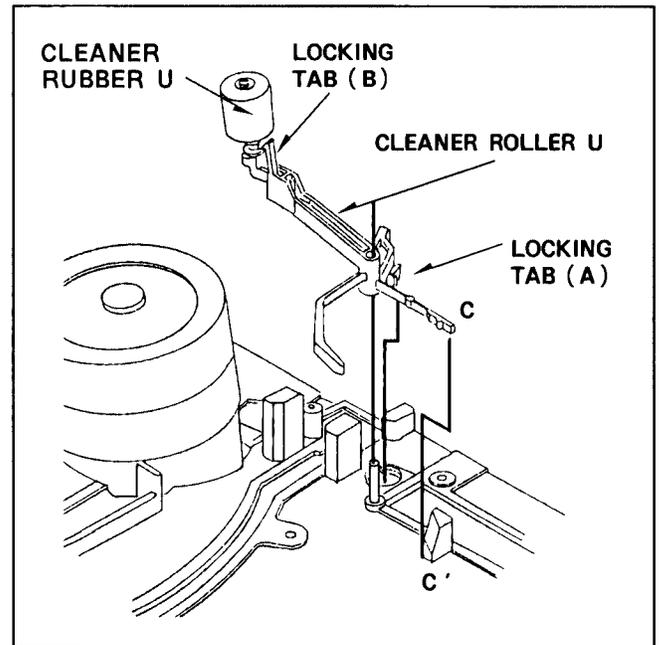

Fig.M12
1. Unlock the locking tab (A) as shown in Fig.M12. and lift it up.
3. Replacement of the Cleaner Rubber Unit. Hold the Cleaner Roller Unit and unlock the locking tab (B) then lift it up.